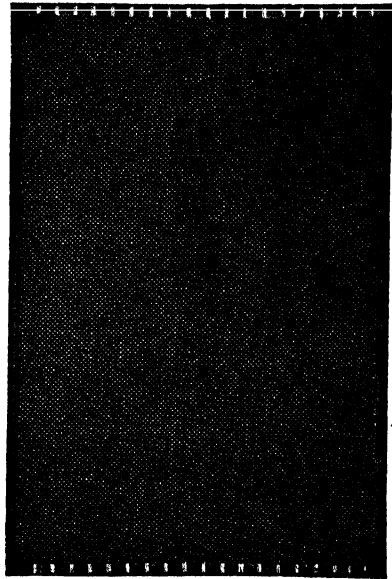

Fig. 394. Wood and Rubber Separator
*Reassembling Battery.* Wash all the sediment out of the jars, also wash and save the rubber sheets, unless they happen to be broken, but throw away the old wood separators. The rubber sheets should be placed in clean running water for about a quarter of an hour. Reassemble the positive and negative groups with the plates on edge in order to insert the separators. Place a rubber separator against the grooved side of a wood separator, Fig. 394, and insert a positive plate near the center of the element. The rubber sheet must be against the positive plate, and the wood separator against the negative plate. In this manner insert separators in all the spaces, working in both directions from the center. Care must be taken *not to omit a separator as that would short-circuit the cell*.